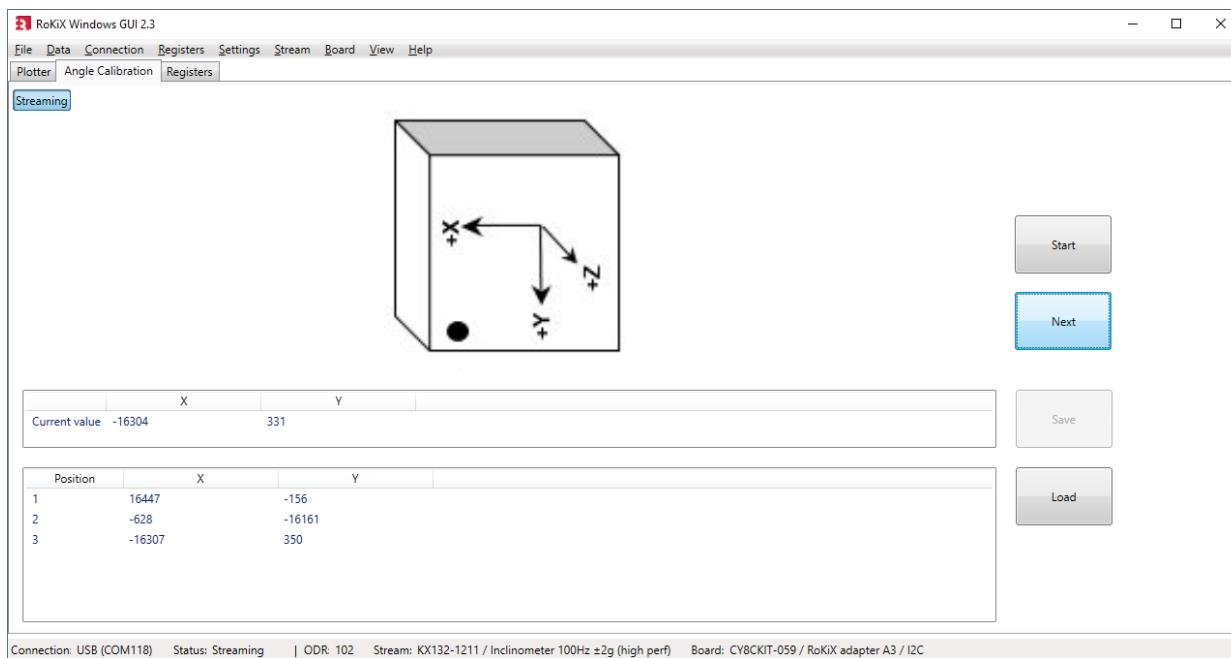

Figure 47. Angle Calibration. Position - 4
4. Click Next and hold the device still until the diagram changes to the 4th position (Figure 47)